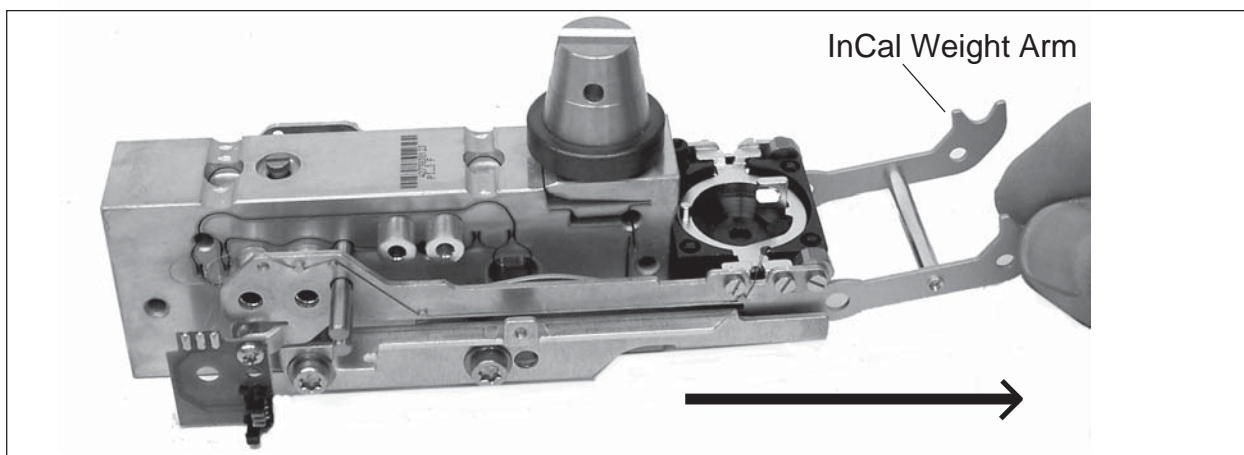
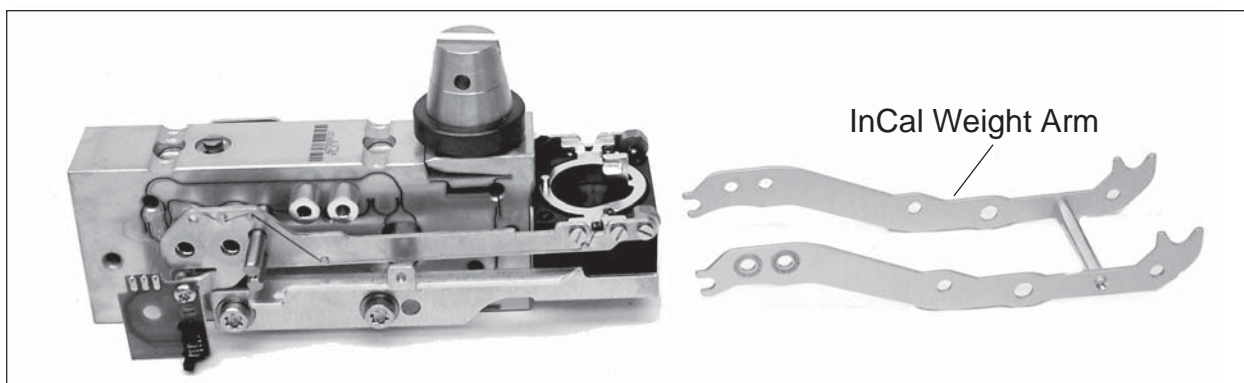

Figure 3-50. InCal Weight Arm Removal.
Figure 3-51. InCal Weight Arm Removed.
8. Carefully slide the InCal Weight Arm as shown in Figure 3-50. Figure 3-51 illustrates the InCal Weight Arm removed.
8. Carefully slide the InCal Weight Arm into position, see Figure 3-50.